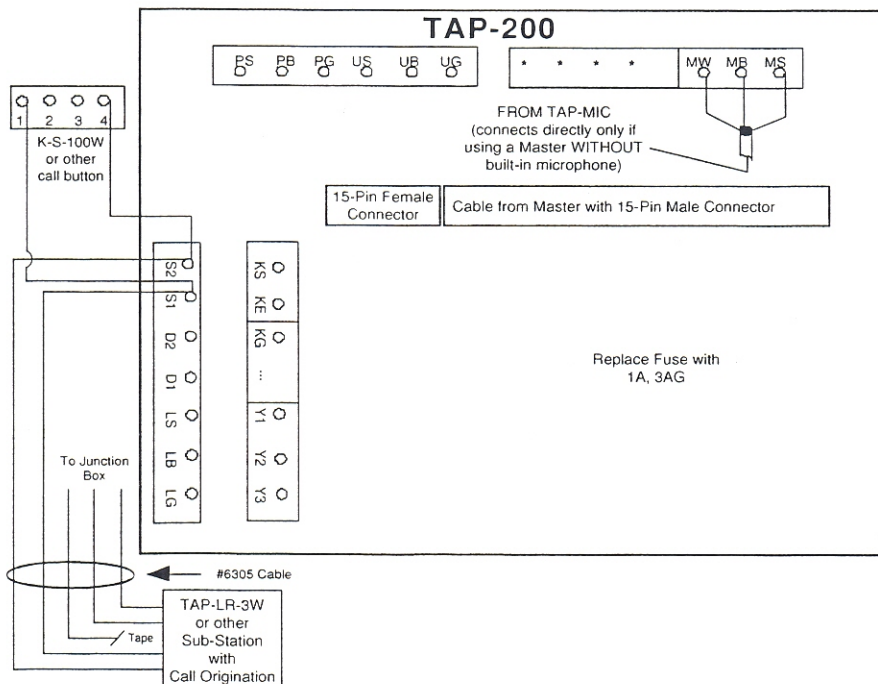

Figure 5. TAP-200 wire connections for 4-, 8- and 12-Channel Hands-Free Masters
1. **TAP-200:** Separate microphones (not built into Master) and all Call Buttons (either stand alone or built into Sub-Stations) must be connected directly to TAP-200 (see Figure 5). A cable from the Master is also plugged in.
Even when you have silenced the system, you can be contacted by a tone signal from a Sub-Station with call origination (such as Model TAP-LR-3W) or a separate call button (such as Model K-S-100W). See Figure 5 for wiring connections.